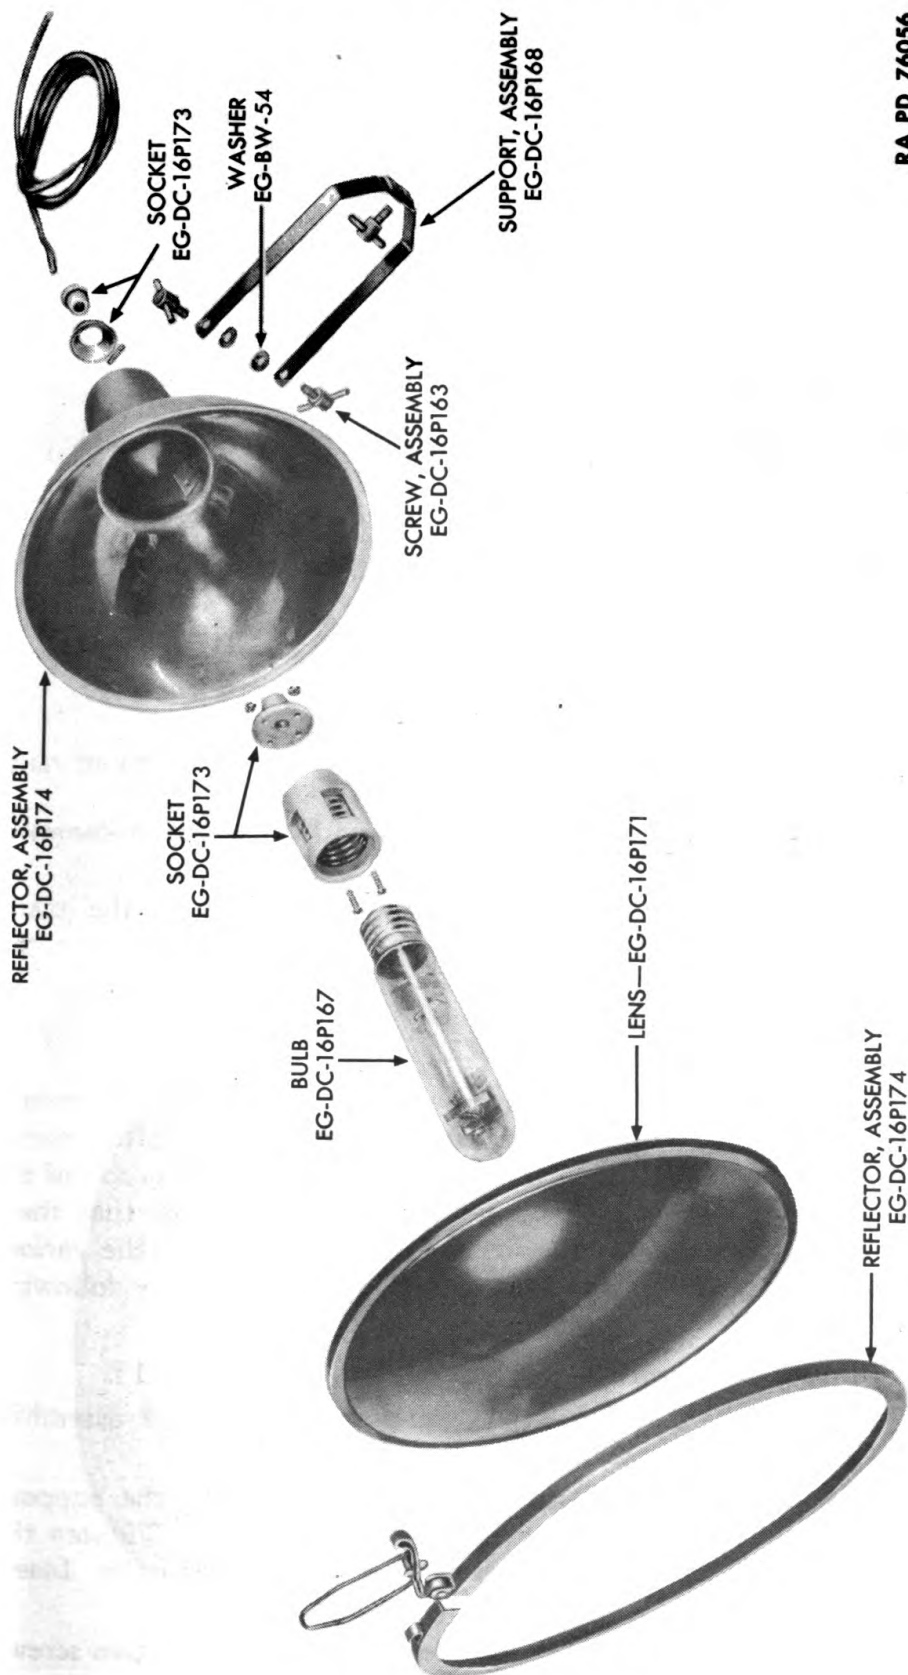
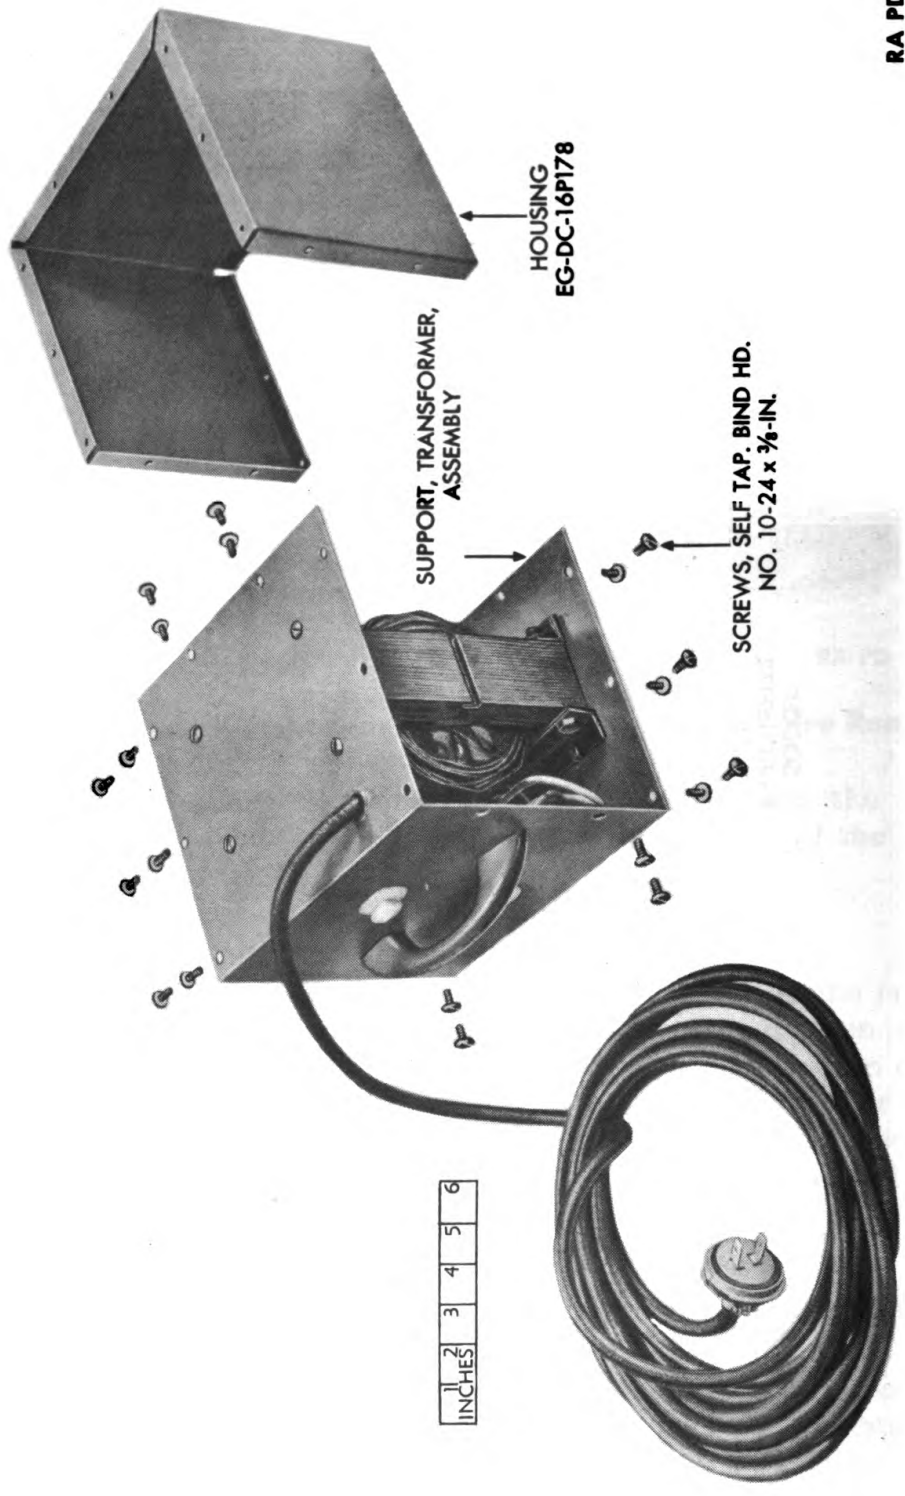

Figure 151 — Components of Ultraviolet Lamp
Figure 152 — Ultraviolet Lamp Transformer — Housing Removed
(2) Remove the screw assemblies (fig. 151) fastening the support assembly to the reflector assembly.
(3) The lens is removed by loosening the clamping ring part of the reflector assembly which holds the lens in position.
(4) Unscrew the bulb from the socket. Disassemble the socket by removing the two screws and hexagonal nuts.
(5) Remove the twenty self-tapping binding head screws fastening the housing (fig. 152) to the ultraviolet lamp transformer support assembly.